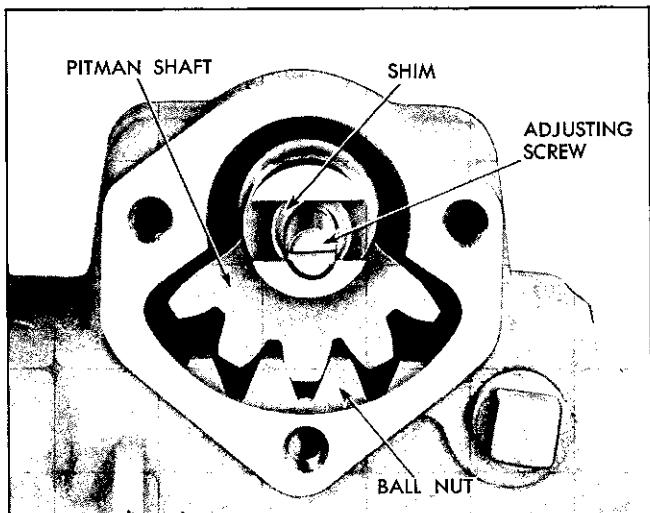

Fig. 9-45 Position of Pitman Shaft and Ball Nut
8. Install pitman shaft and adjusting screw with sector and ball nut teeth positioned as shown in Fig. 9-45.